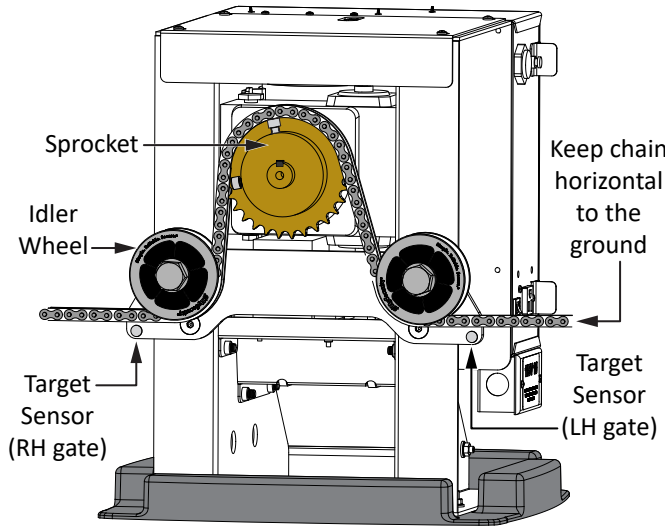
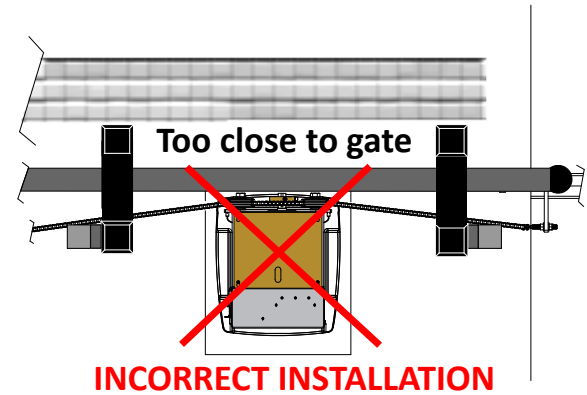

Figure 13. Rear View Chain Installation
Figure 15. Incorrect Rear View Chain Installation
3. In either situation, make sure the chain is properly aligned horizontal to the ground and parallel to the gate. See Figure 13 – Figure 15.